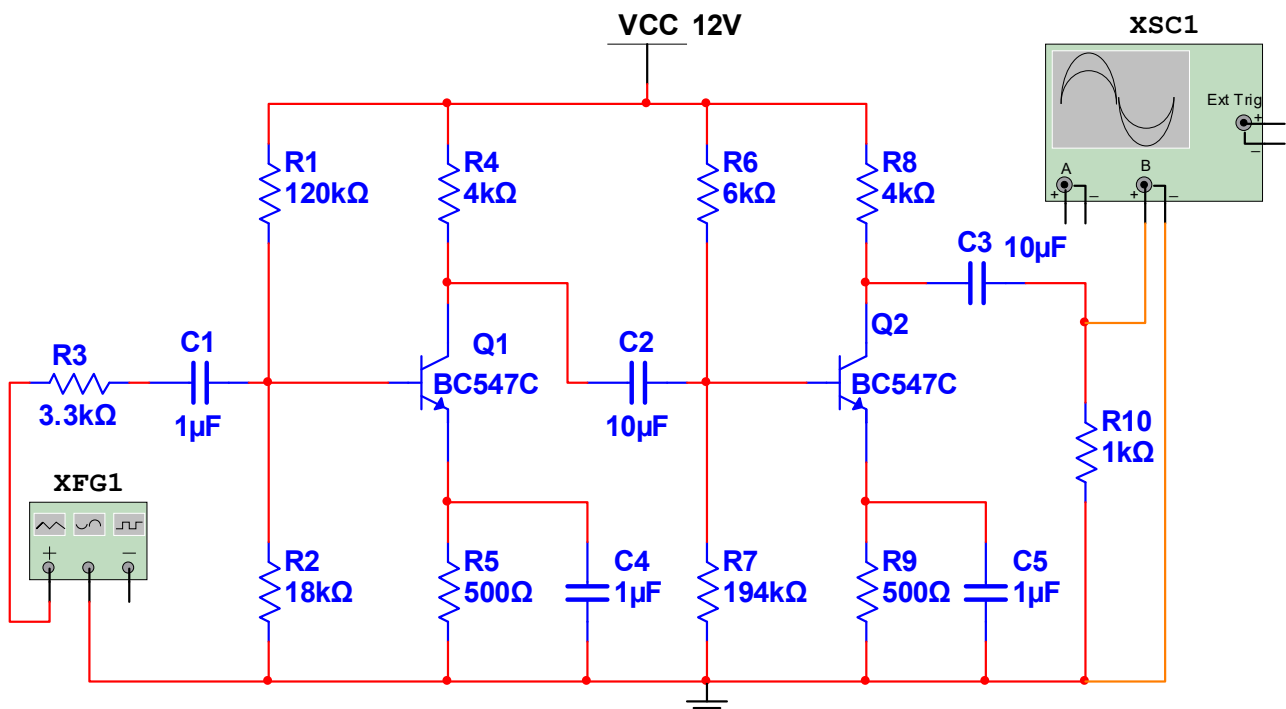

Figure 10.2: Circuit Diagram of two stage RC Coupled Amplifier
Now these two stages must be connected in cascade (series) to get their gains multiplied. The most popular type of coupling two stages is capacitor coupling, as it provides excellent audio fidelity. A coupling capacitor is used to connect output of first stage to input of second stage. Resistances R_1, R_2, R_5 and R_6, R_7, R_9 provides stabilized biasing of two stages. Emitter by-pass capacitor C_4 & C_5 offers low reactance paths to signal. Coupling Capacitor transmits ac signal from a stage to the next, blocks DC as shown in Figure 10.2.
- ❖ Connect the components as shown in Figure 10.2.